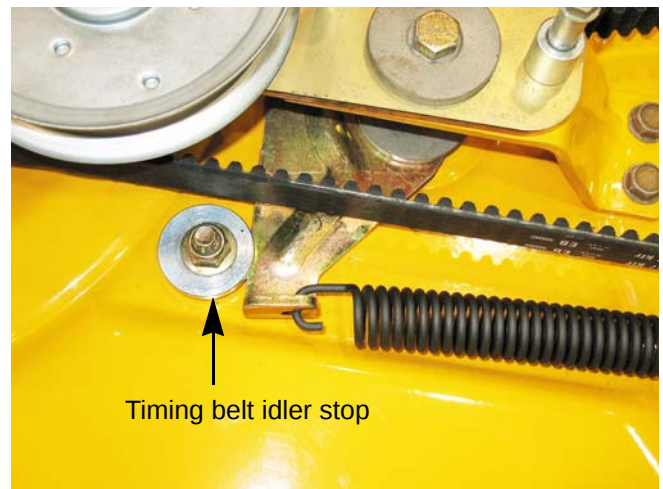

Figure 8.22
- Remove the timing belt idler stop using a pair of 9/16" wrenches. See Figure 8.22.